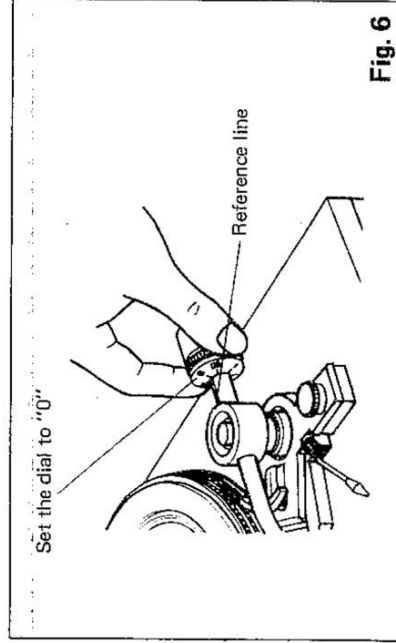

Fig. 6
- 1) When the tonearm is balanced, the stylus pressure is zero. Accordingly, turn the dial on the counterweight until the zero mark comes to the line on the tonearm. Be careful not to touch the counterweight while turning the dial. (Fig. 6)